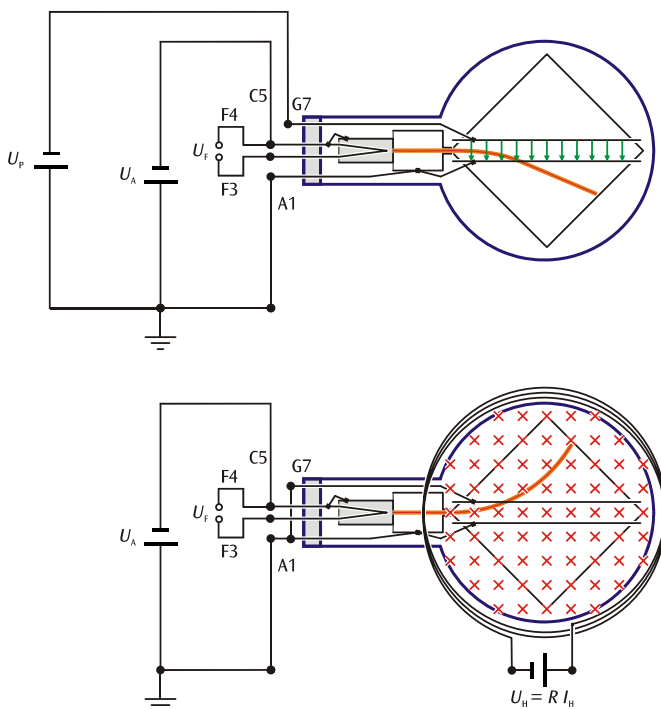

Fig. 1: Schematic diagram of a Thomson tube showing deflection by an electric field (top) and a magnetic field (bottom)
acting perpendicular to both the direction of motion and the plane of the magnetic field. The deflection is vertical if both the motion and the field are in a horizontal plane (see bottom of Fig. 1). If the magnetic field in that plane is uniform and perpendicular to the motion, the electrons are deflected along a circular path in a vertical plane where the centripetal force is furnished by the same Lorentz force.
This deflection is also vertical (see top of Fig. 1). The electric field can therefore be adjusted in such a way that it precisely compensates for the deflection by the magnetic field. In this case the following is true:
- Connect terminals F3 and F4 on the tube holder to the heater voltage output (blue terminals) of the high-voltage power supply using safety experiment leads (see Fig. 1).